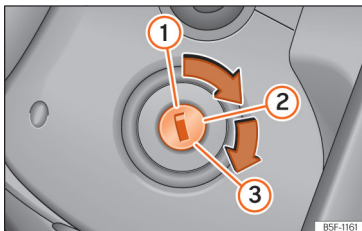

Fig. 136 Ignition key positions.
Key positions »» Fig. 136
- Turn the key to position »» **Fig. 136 ②**. Preheating occurs in diesel vehicles .
- Keep turning the key to position »» **Fig. 136 ③** without stepping on the accelerator.
- Once the engine starts, release the key. When it is released, the key returns to position **②**.
- *Vehicles with ignition locks:* Turn the key to position »» **Fig. 136** .